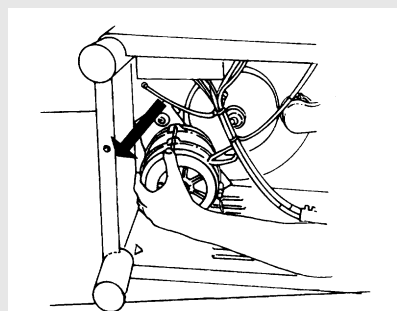

Fig.13
- Move the motor unit according to the arrow, Fig. 13.